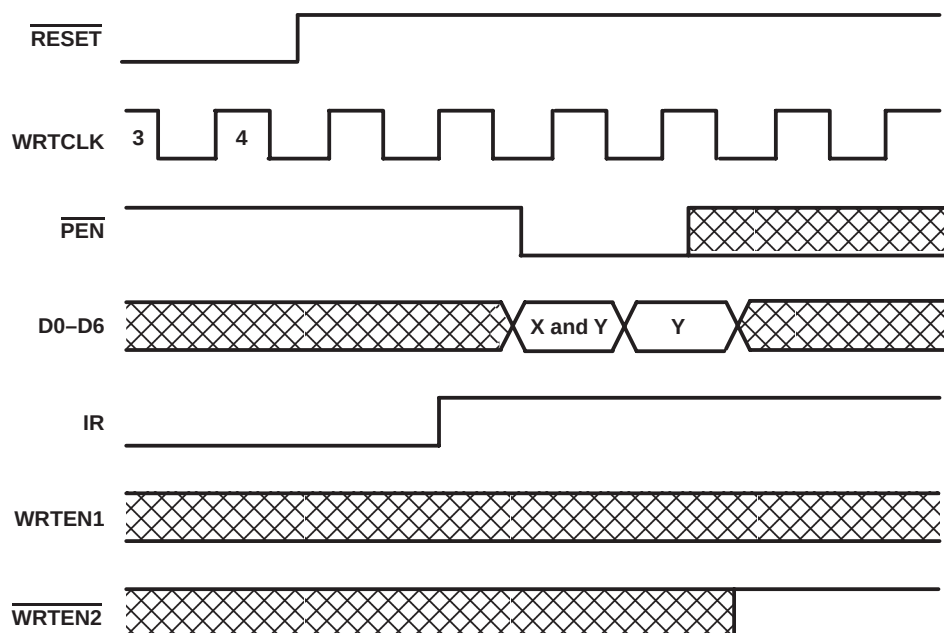

Figure 4. Programming X and Y Separately
Program enable ($\overline{PEN}$) should be held high throughout the reset cycle. $\overline{PEN}$ can be brought low only when IR is high and WRTCLK is low. On the following low-to-high transition of WRTCLK, the binary value on D0–D6 is stored as the almost-empty offset value (X) and the almost-full offset value (Y). Holding $\overline{PEN}$ low for another low-to-high transition of WRTCLK reprograms Y to the binary value on D0–D6 at the time of the second WRTCLK low-to-high transition. When the offsets are being programmed, writes to the FIFO memory are disabled regardless of the state of the write enables (WRTEN1, WRTEN2). A maximum value of 127 can be programmed for either X or Y (see Figure 4). To use the default values of $X = Y = 32$, $\overline{PEN}$ must be held high.